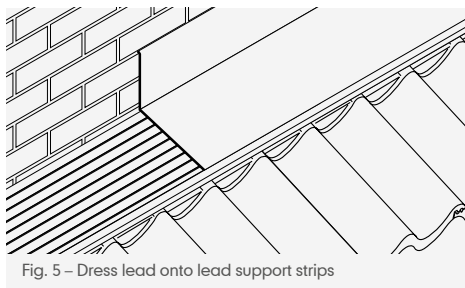

Fig. 5 – Dress lead onto lead support strips
- 5 Dress Code 4 lead or similar flashing material, over lead support strip and fit front edge into integrated retaining channel on front edge support (Fig. 5, page 210).